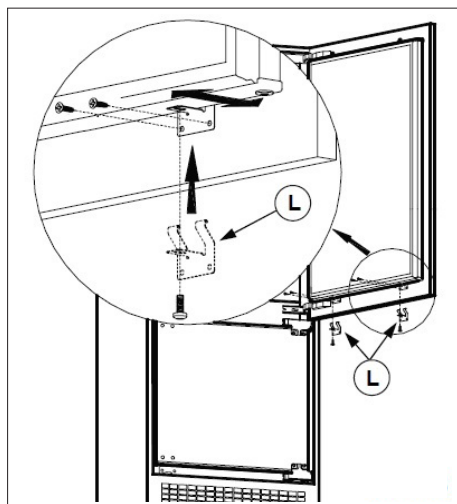

Fig. 15
25. Place the holders (L) between the refrigerator cover and the bottom edge of the refrigerator door according to Fig. 15 and secure them.